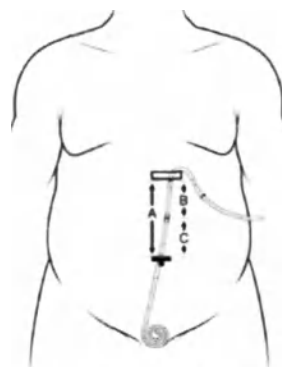

Figure 8
See Figure 8.
2. Record that distance, "A", in centimeters, between the primary and secondary incision sites. This distance, A, represents the total length needed when combining Upper and Lower Catheters. See Figure 8.